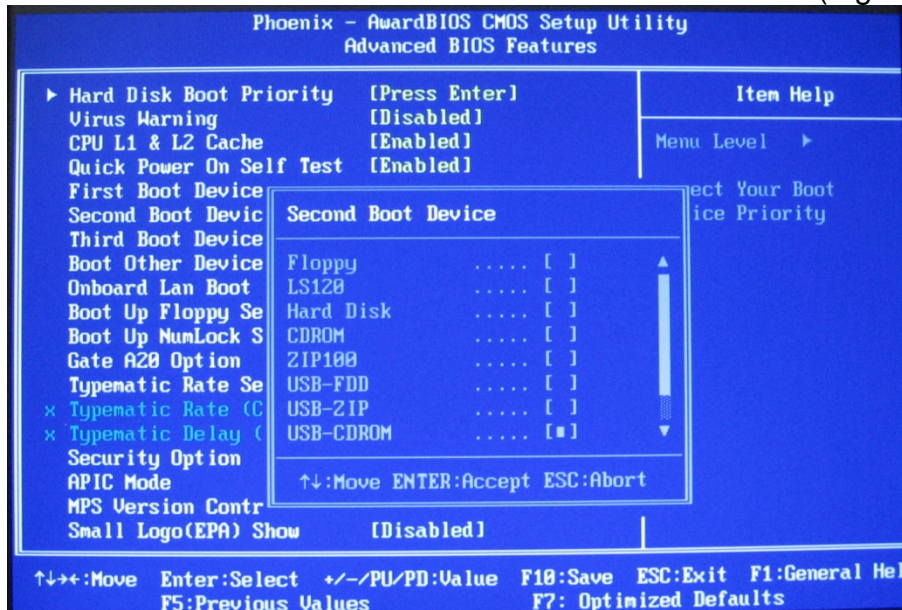

Figure 7-18 Second Boot Device Settings
8. On the **Second Boot Device Popup** select **USB-CDROM**. Press **Enter**. (Figure 7-18).